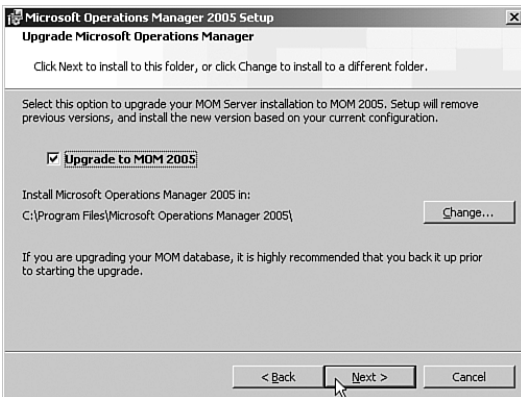

FIGURE 7.5 Check the upgrade option to upgrade the MOM 2000 environment.
4. When the MOM 2000 components are detected the screen displayed in Figure 7.5 appears. Click on the Upgrade to MOM 2005 check box and continue.